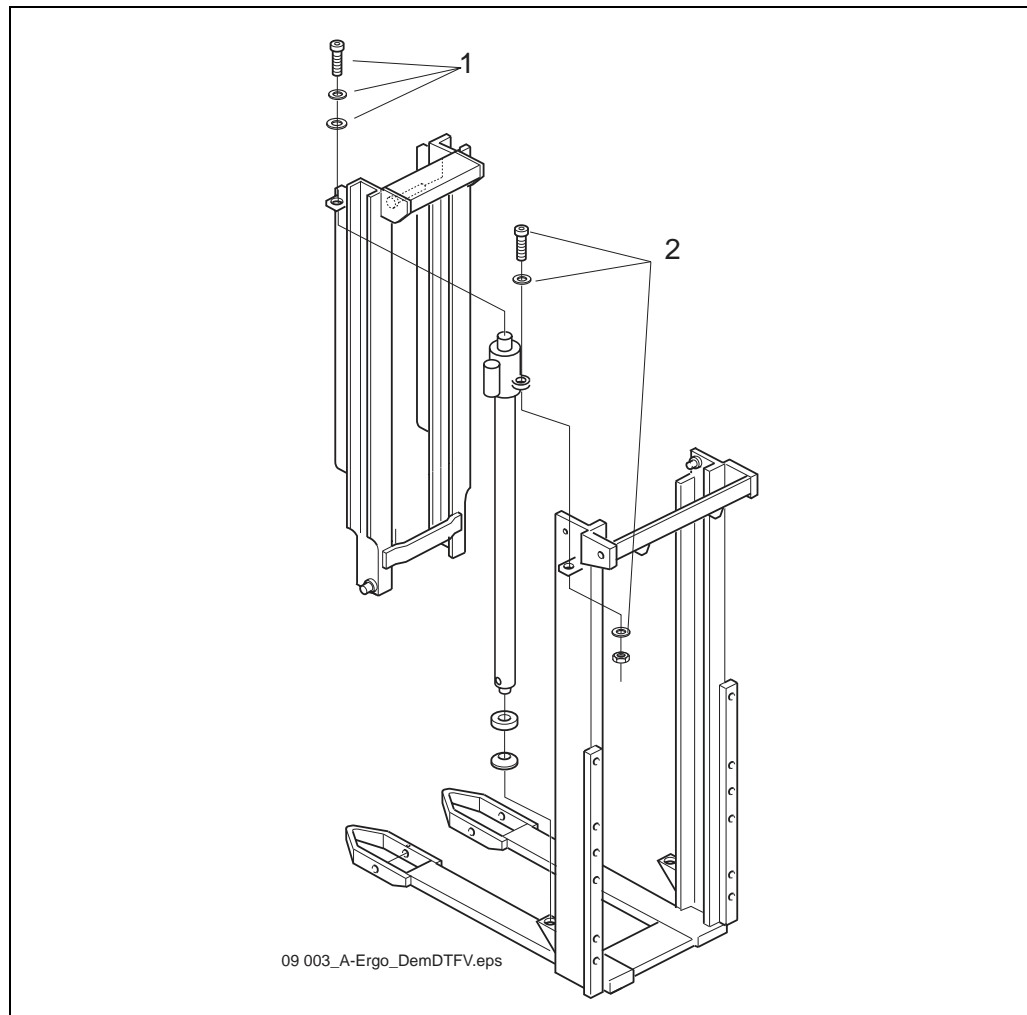

Figure 9.3 Lift cylinder TV/TFV/DTFV
2. Loosen the upper retaining screws, pos. 1 see Figure 9.3.
5. Remove the retaining screw, pos. 2 see Figure 9.3.